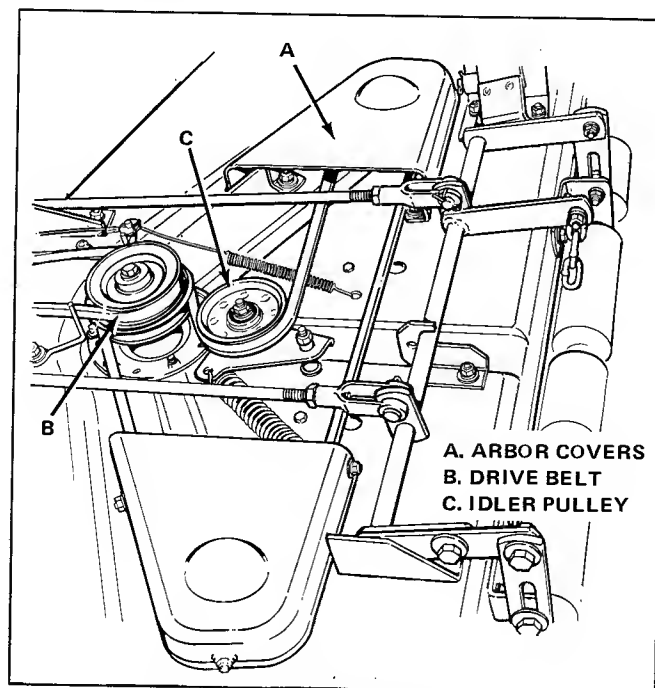

Figure 29. Arbor belt Replacement
2. Remove the side arbor covers (items A, figure 29) to gain access to the arbor pulleys.